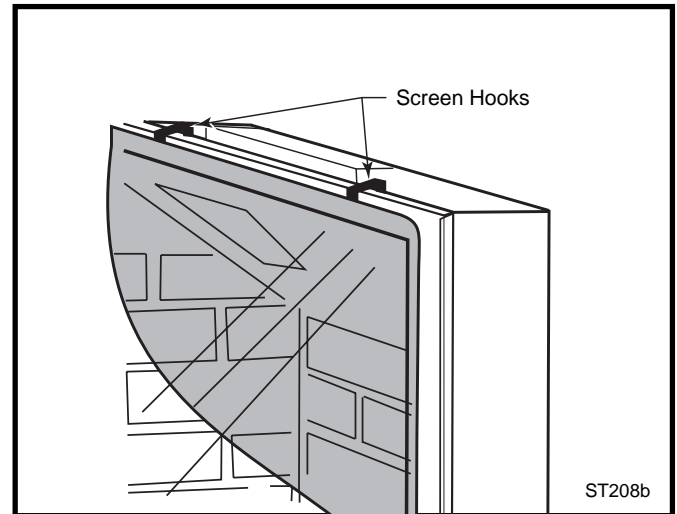

Fig. 30 Remove screen.
2. Remove the safety screen. (Fig. 30)